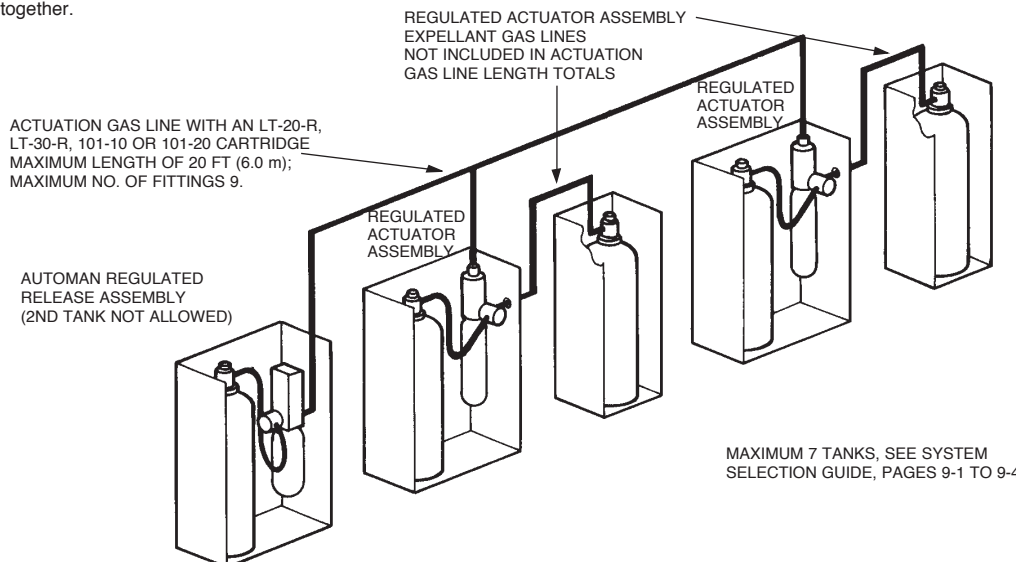

FIGURE 4-147
2. The actuation gas line piping is installed from the regulated release mechanism to each regulated actuator connected within the system. The total length of the actuation gas line from the regulated release assembly to the regulated actuator assemblies **must not exceed 20 ft (6.0 m)** when using an LT-20-R, an LT-30-R nitrogen cartridge, or a 101-10 or a 101-20 carbon dioxide cartridge. See Figure 4-147.